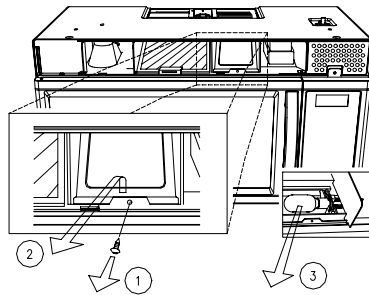

FIGURE 4
3. Remove a screw (1) for lamp cover. (See Figure 4.)
4. Pull out the Lamp cover. (See Figure 4.)
7. Replace lamp cover and secure it with the screw (1).